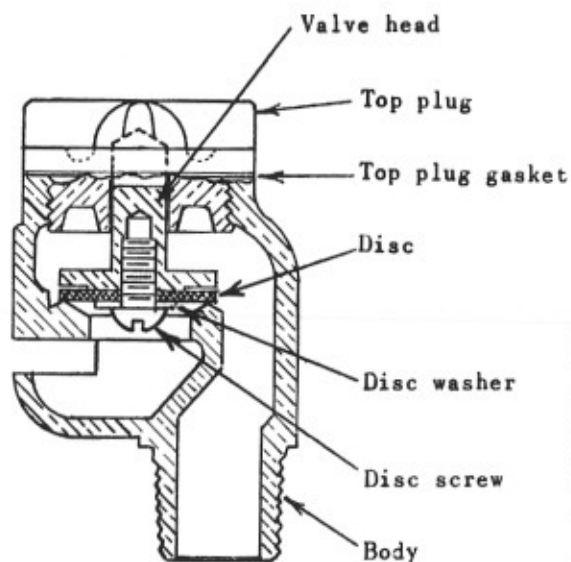

Figure 170
**VACUUM BREAKER WATTS NO. 36:** Refer to Figure 170. This is a single line vacuum breaker. The only maintenance required will be the cleaning of the seat and renewing of the disc in the event there is water passing through the breaker.